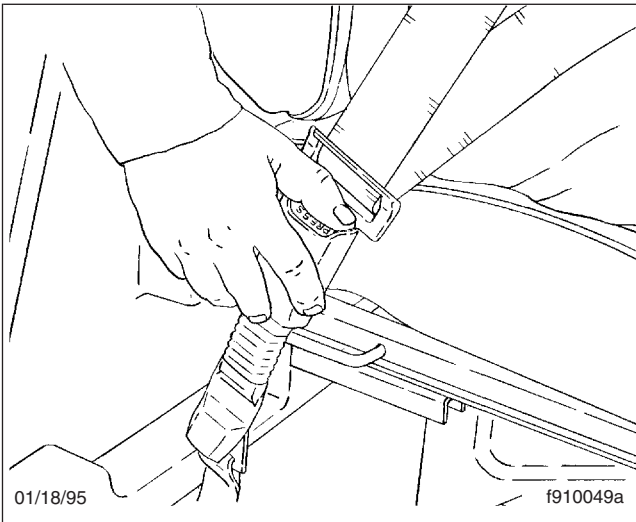

Fig. 5.12, Releasing the Three-Point Seat Belt
4. To unbuckle the three-point seat belt, push the button on the buckle as shown in **Fig. 5.12**. If the Komfort Latch was used, release it by giving the shoulder belt a quick tug. If you lean forward against the shoulder belt, the Komfort Latch will automatically release, and will need to be reset.
6. To unbuckle the three-point seat belt, press the release button on the buckle; see Fig. 5.12.